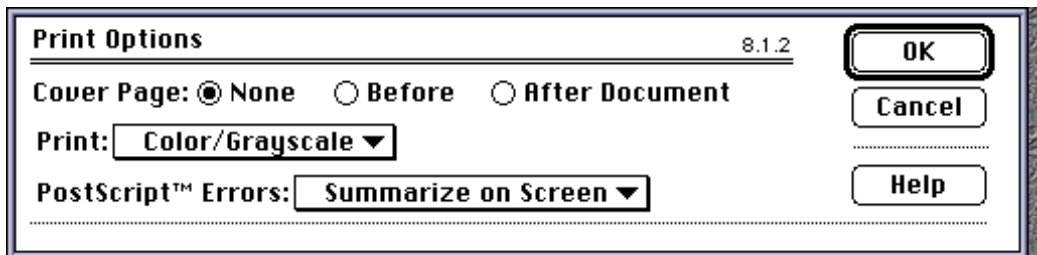

Figure 4-17 Adobe Photoshop 3.0.5 Print Options Window
7. **Click on the Print Options button on the right side of the Print window to change the settings shown in Figure 4-17:**